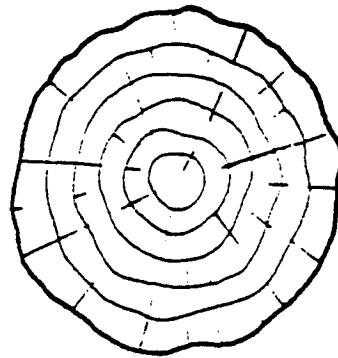

FIG. 6
- (d) (i) Backsawing is one method that is used to convert logs into plank form. On Figure 6, indicate how the log would be sawn using the backsawing method.